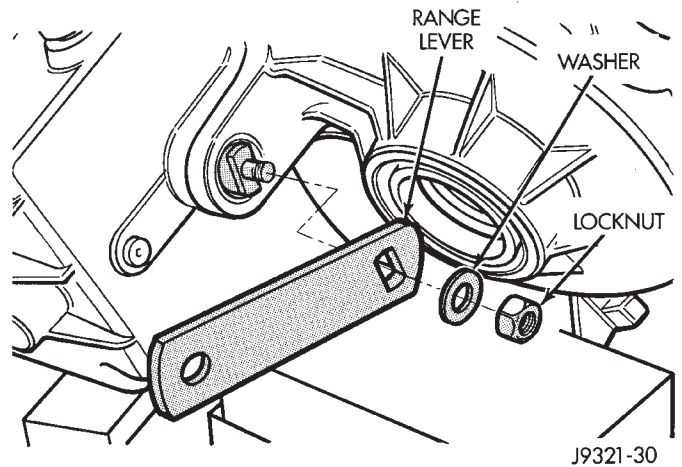

Fig. 69 Range Lever Installation (Typical)
(1) Install range lever, washer and locknut on sector shaft (Fig. 69). Tighten locknut to 27-34 N-m (20-25 ft. lbs.) torque.